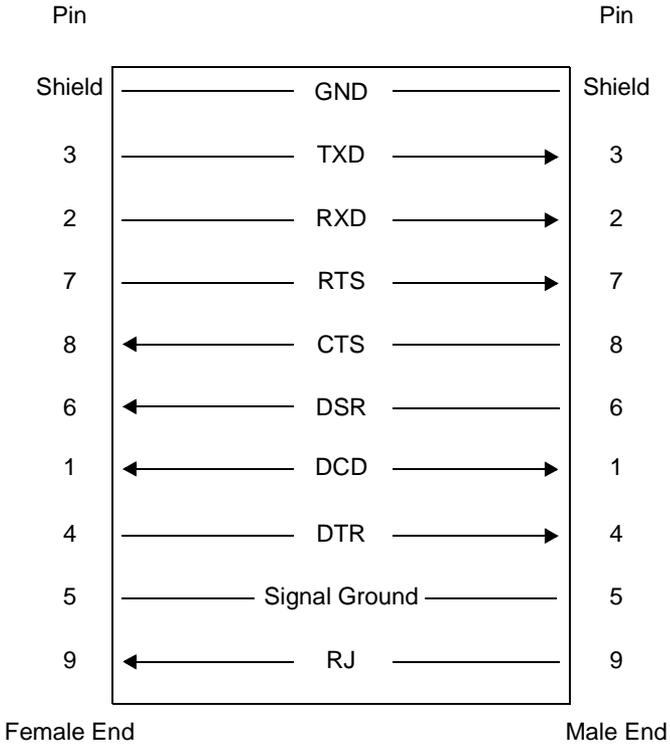

Figure 9. RS-232 Pinouts
1. Connect one end of the RS-232 cable to the serial port of the device containing the application software and the other end to the converter RS-232 port. On some devices you may need to use a DB25-to-DB9 adapter for the serial port. Figure 9 shows the pinouts for the RS-232 cable.